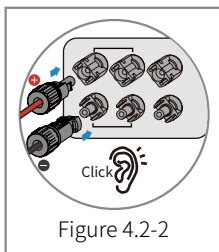

Figure 4.2-2
- **PV input connection:** Confirm the connections between the ET and PV panels and that the polarities (+/-) are not reversed. Refer to figure 4.2-2.